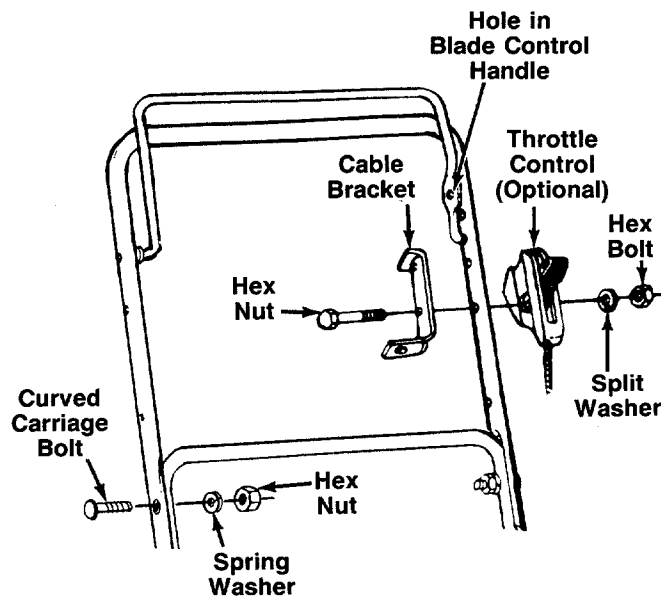

FIGURE 2.
2. Secure the upper handle to lower handle using the curved head bolts, split washers and hex nuts as shown in figure 2.
If your mower is equipped with an optional remote throttle control, it is already attached to the engine. Attach the throttle control to the **left** side of upper handle as follows. See figure 2.